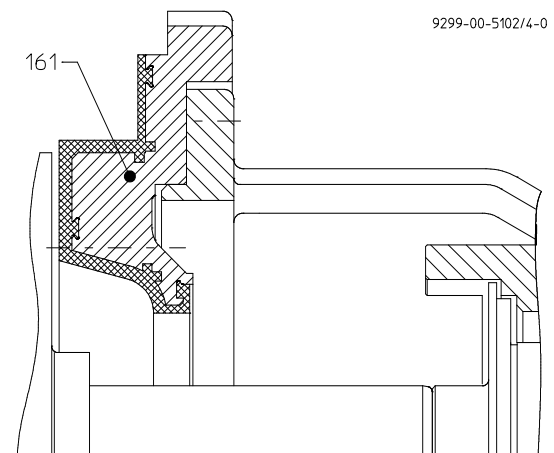

Fig. 4
- ◆ There is an anchored back plate **161** for the mechanical seal RG-4. See **Fig. 4**.